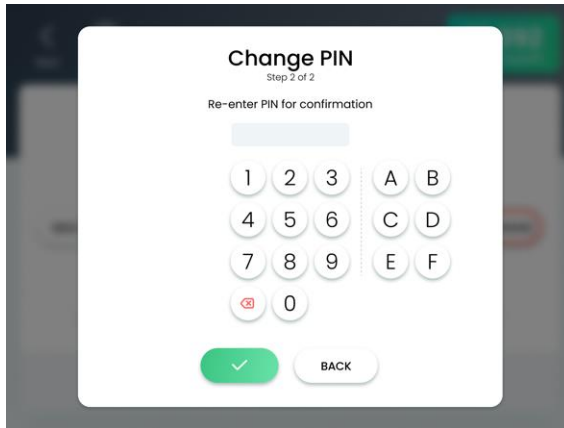

Figure 6-11. Change PIN (Step 2 of 2) Screen
5. Press the **Confirm** button; the **Change PIN** button; the Change PIN (Step 2 of 2) screen appears, as shown in Figure 6-11.